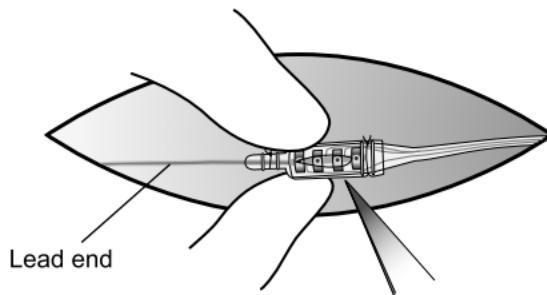

Figure 15. Cut the ligature and connector boot to expose setscrews.
4. Cut the distal ligature on the lead end of the connection. Then cut the connector boot over the setscrews to expose the setscrews (Figure 15).